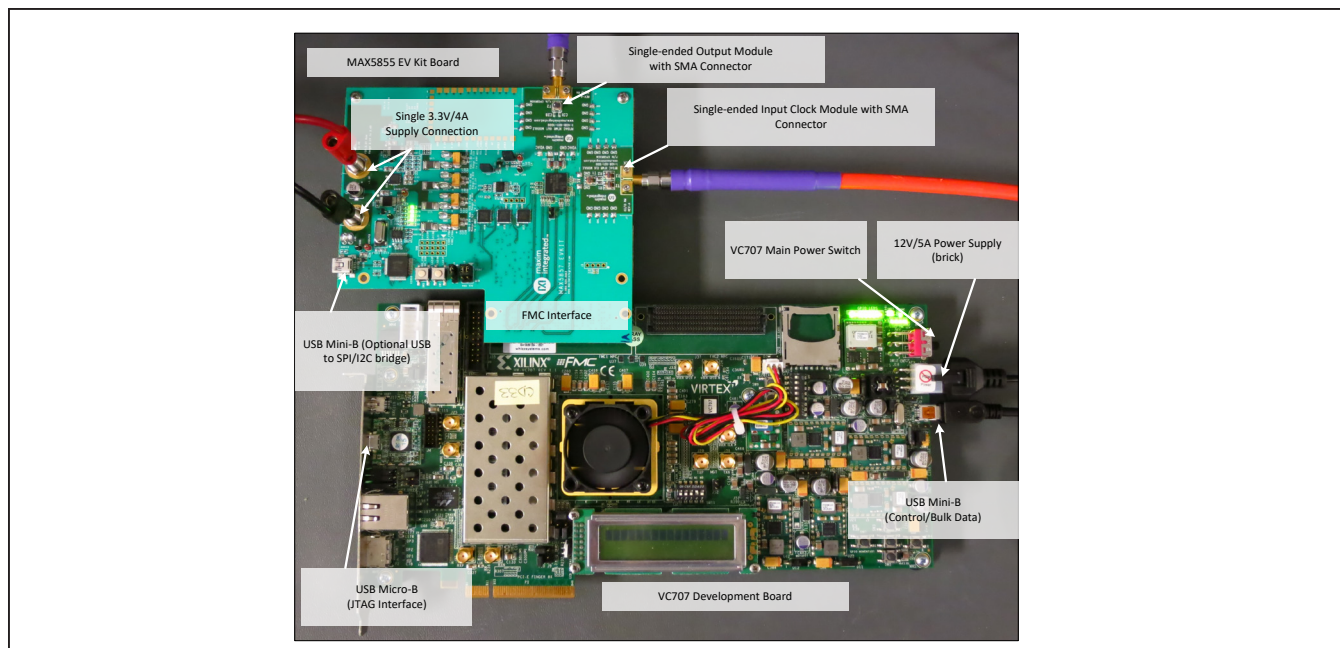

Figure 1. MAX5855 EV kit and VC707 System
- 3) Connect the MAX5855 EV kit board to the VC707 board using the FMC Interface connector shown, as shown in Figure 1.
- 7) Make the USB connections, see Figure 1 for locations